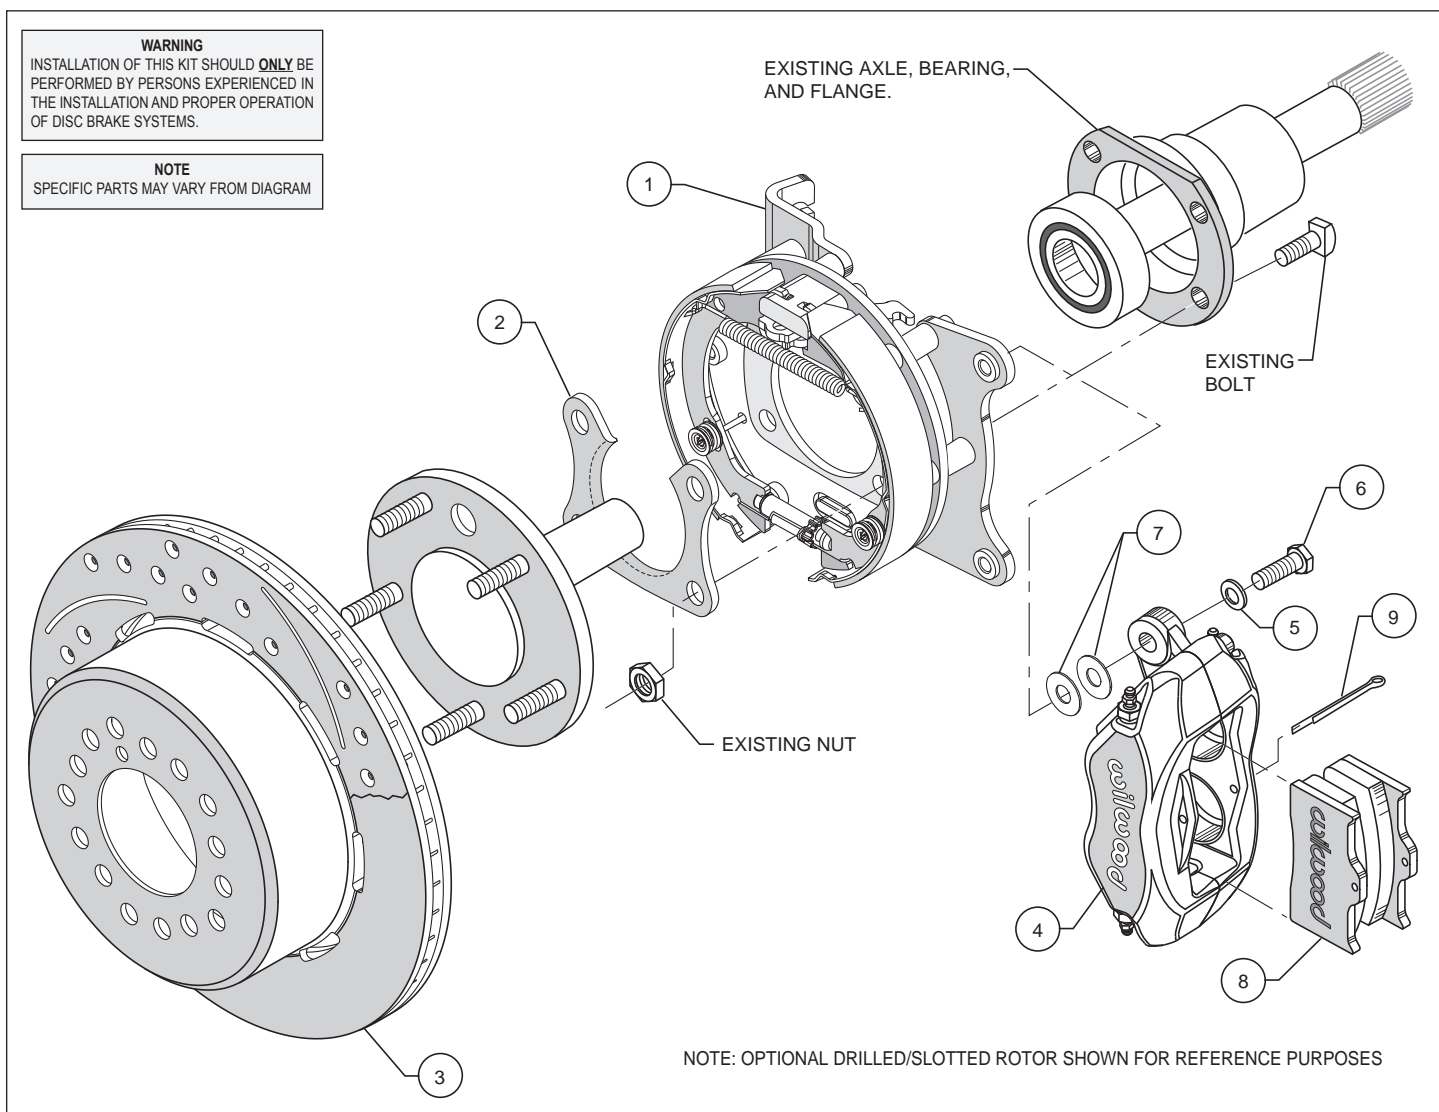
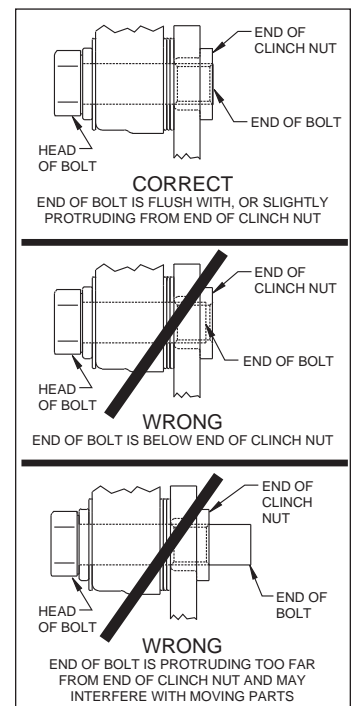

Figure 1. Typical Installation Configuration
Figure 5. Clinch Nut Engagement Diagram
Assembly Instructions (numbers in parenthesis refer to the parts list, and Figure 1 on the preceding pages): **CAUTION:** All mounting bolts must fully engage clinch nuts. Be sure to check that all bolts are either flush or protruding through flanged side of clinch nut after shimming, Figure 5.
- Orient the bracket assembly (1) as shown in Figure 1 and Photo 1 and slide it onto the axle. Insert the axle and bracket into the axle housing. Ensure that the bracket assembly backing plate fits flush against the axle housing flange.
- Install the bearing retainer (2) with the opening pointing upward and the lip facing inward (toward the bearing), as shown in Figures 1 and 4, and Photo 2. Secure retainer and bracket assembly to the axle housing flange using the Original Equipment Manufacturer (OEM) bolts and nuts, Figure 1. Apply red Loctite® 271 to the OEM bolt threads and torque to OEM specifications.
- Align the correct hole pattern in the rotor/hat with the stud pattern on the axle flange and slide into place, Figure 1 and Photo 3. **NOTE:** The rotor/hat must fit flush against the axle flange or excessive rotor run out may result. Install three lug nuts (finger tight) to keep the rotor/hat assembly in place while continuing with the installation. **NOTE:** Some OEM and after market axles come with stud sizes larger than 0.50" diameter. Verify stud size and have a qualified machine shop drill the bolt circle of the hat/rotor to the correct stud size, if necessary.
•**NOTE:** Please reference the caution statement at the beginning of the assembly instructions. Mount the caliper (4) onto the caliper mounting bracket (1) using bolts (6) and washers (5), as shown in Figure 1. Initially place two .035" thick shims (7) on each bolt between the caliper and the bracket, Photo 4. Temporarily tighten the mounting bolts and view the rotor (3) through the top opening of the caliper. The rotor should be centered in the caliper, Photo 5. If not, adjust by adding or subtracting shims between the bracket and the caliper. Always use the same amount of shims on each of the two mounting bolts. **NOTE:** The end of each bolt must be flush with or slightly protruding from the head of the clinch nut, as shown in Figure 5. If necessary place spare shims between washer (5) and caliper mounting ear to achieve the proper clinch nut engagement. Once the caliper alignment and clinch nut engagement are correct, remove the bolts one at a time, apply red *Loctite*® 271 to bolt threads, and torque to 40 ft-lb.